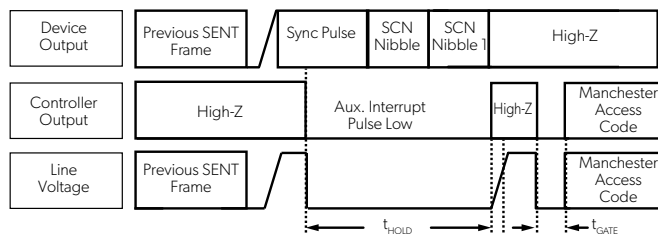
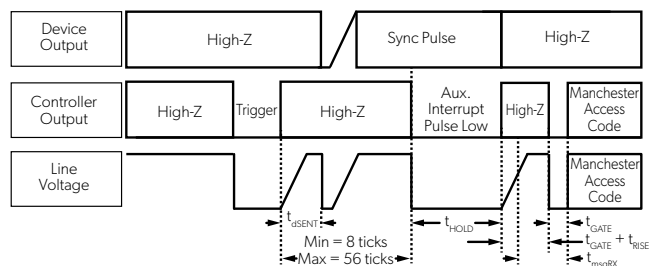

Figure 55: Entering Manchester using SENT
Figure 56: Entering Manchester using TSENT
2. If using a form of free-streaming or Triggered SENT (OUTMSG_MODE = 1, 2, 6, or 7) the SENT frame must be interrupted by an Auxiliary Interrupt Pulse followed by the Manchester entry code (as shown in Figure 55 and Figure 56).
To initialize communication using the Manchester auxiliary command when the A17803 is configured with free-streaming SENT (OUTMSG_MODE = 1 or 7), the auxiliary interrupt pulse can begin at any time. The pulse must have a minimum width of t_{HOLD} , after which the pulse must be released for t_{GATE} plus the rise time to allow the line to pull high, followed by a low period of t_{GATE} before sending the Manchester access code. If the first rising edge of the Manchester access code is not observed before t_{msgRX} , a timeout of the the device occurs, Manchester initialization aborts, and the device returns to normal functionality. The Manchester auxiliary command is shown in Figure 55.
To initiate Manchester communication when the A17803 is configured with the TSENT output (OUTMSG_MODE = 2 or 6), the auxiliary interrupt pulse must be transmitted during the SENT message frame, requiring a trigger pulse to begin a SENT frame. The auxiliary interrupt pulse must begin between 8 and 56 ticks following the completion of the trigger pulse. The pulse must have a minimum width of t_{HOLD} , after which the pulse must be released for t_{GATE} plus the rise time to allow the line to return high, followed by a low period of t_{GATE} before sending the Manchester access code. If the first rising edge of the Manchester access code is not observed before t_{msgRX} , a timeout of the device occurs, Manchester initiation aborts, and the device returns to normal functionality. The Manchester Auxiliary command is shown in Figure 56.